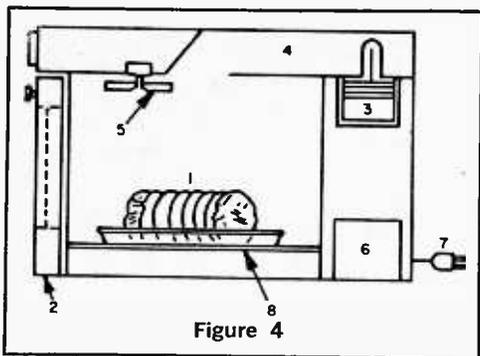

Figure 4
The basic parts of a microwave oven are shown in Fig. 4: the cavity (1) the door (2) the magnetron (3) waveguide (4) the mode stirrer (5) the power supply (6) and